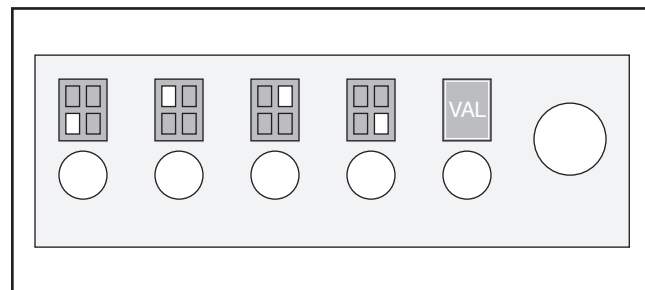

Figure 47. Vacuum labels installed.
20. Install (4) vacuum zone labels and (1) main valve label on vacuum valve cover above each handle (see **Figure 47**).